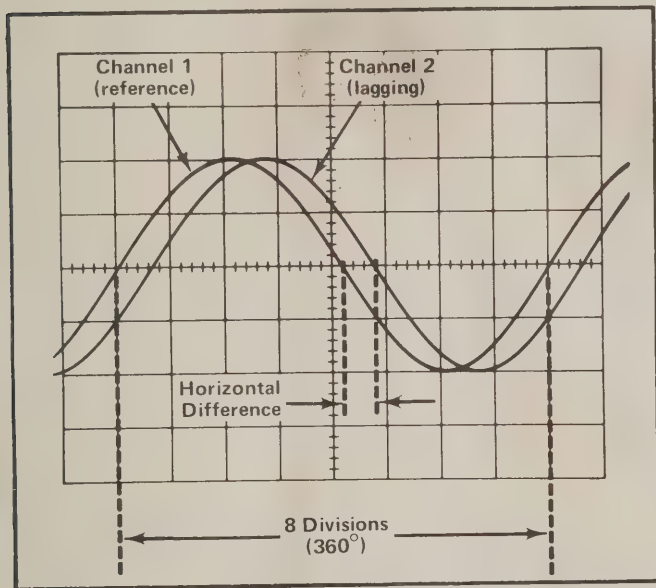

Fig. 10. Measuring phase difference.
10. Turn the A VARIABLE control until one cycle of the reference signal (Channel 1) occupies exactly eight divisions between the first and ninth graticule lines (see Fig. 10). Each division of the graticule represents 45° of the cycle ($360^\circ \div 8 \text{ divisions} = 45^\circ/\text{division}$). The sweep rate can be stated in terms of degrees as $45^\circ/\text{division}$.
Example. Assume a horizontal difference of 0.6 division with a sweep rate of $45^\circ/\text{division}$ as shown in Fig. 10.